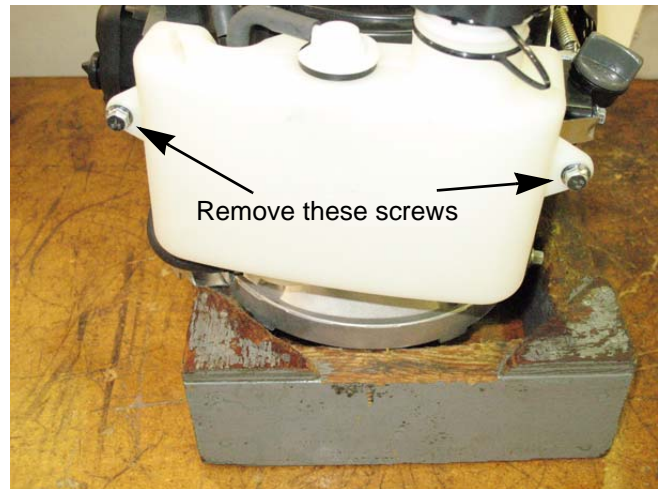

Figure 4.14
5. Remove the top two screws and remove the tank. See Figure 4.14.